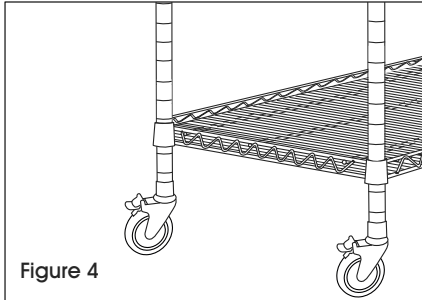

Figure 4
- Stand unit upright. Gently tap shelf down to secure it. (See Figure 4)
(Voir Figure 4)